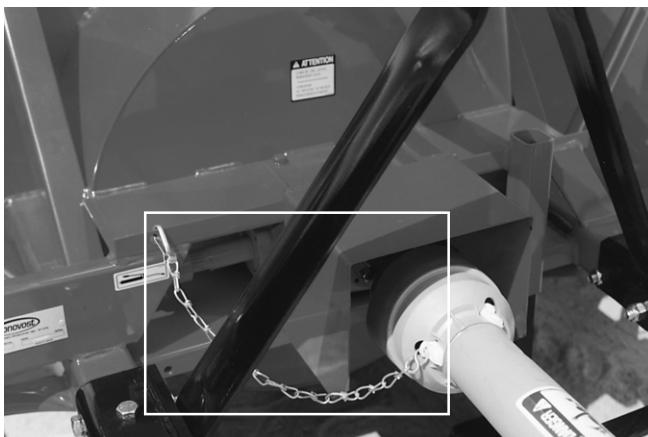

Figure 22
- 4) Install P.T.O. shaft with the shear pin end onto the Snowblower gear box. Then attach safety shield support chain as shown (Fig. 22). **WARNING:** The telescoping tubes of the drive shaft must never be allowed to bottom out while maintaining a minimum overlap of 6 inches.